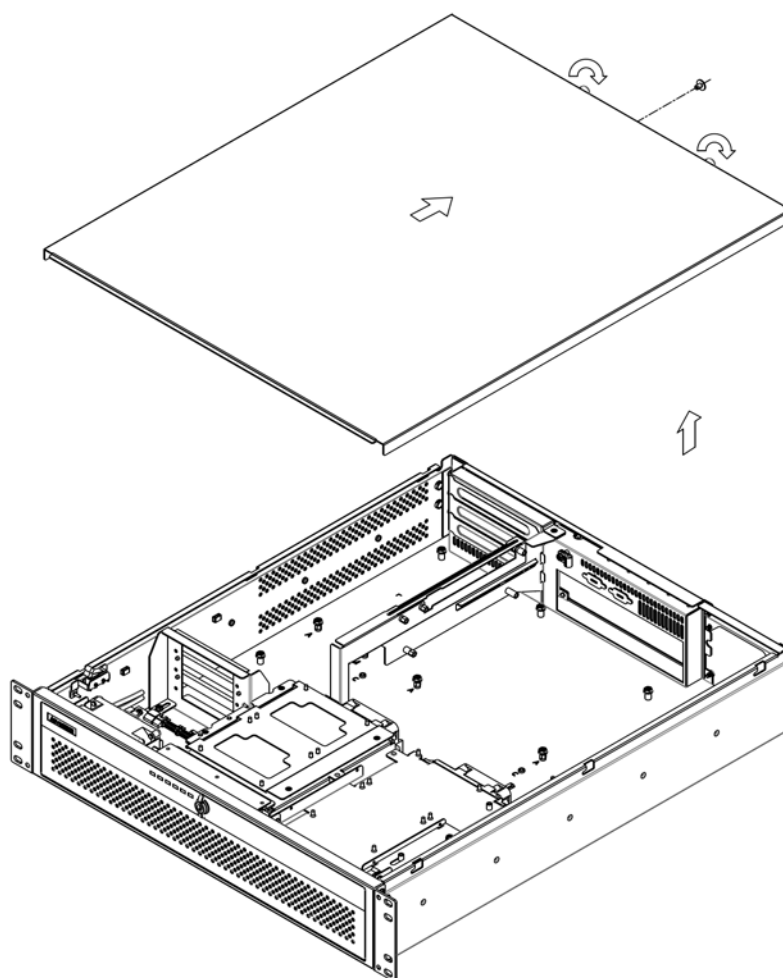

Figure 2.1 Removing the top cover/ 移除顶盖 / 移除上盖
2. Slide the top cover backwards and then lift it up. (see Figure 2.1)